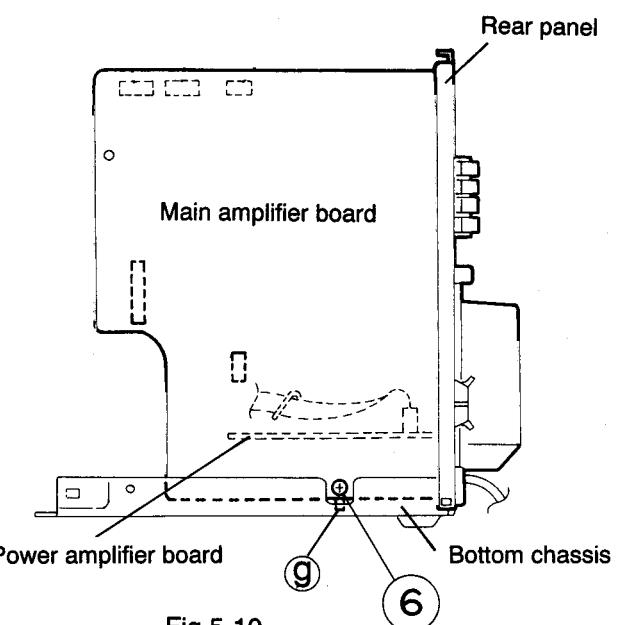

Fig.5-10
4. Remove the screw ⑥ fastening the main amplifier board and bottom chassis to the side panels of the main unit. (See Fig. 5-10)
8. Remove the rear panel assembly from the bottom chassis by disengaging the protrusion ⑩ of the main amplifier board from the cutout in the bottom chassis. (See Fig. 5-10)